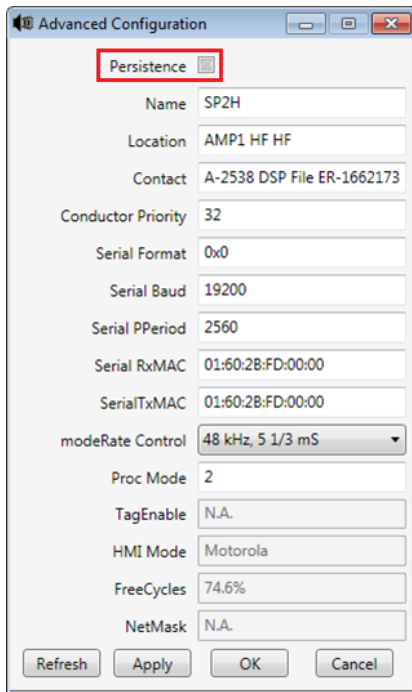

Figure 17: Advanced Configuration
- In the Advanced Configuration window (Figure 17), ensure **Persistence** is NOT checked, and then click **OK**.
4. In the *Advanced Configuration* window (**Figure 17**), ensure **Persistence** is checked, and then click **OK**. Having **Persistence** checked allows the amplifier to keep the IP address settings as well as Name, Location, and Contact information after power is cycled.